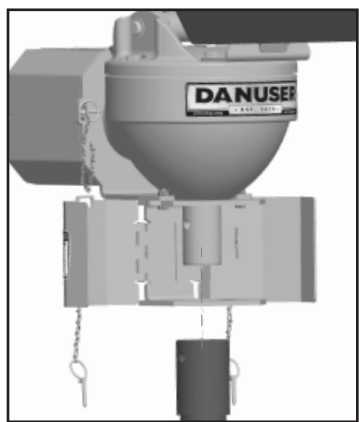

FIG. 6
STEP 9: Open the auger adapter guard (PN 20061) by unlatching two klik pins (PN 7652). Grease the inside of the auger adapter liberally, and attach the auger with the Danuser 1/2"-13 x 3-1/4", Gr. 8, 1/2" of thread **special** retaining bolt (PN 6014) and nut (PN 1056). **NEVER** use a bolt that does not meet these specifications. Once the auger is installed, close the auger adapter guard and latch the two klik pins (see FIG. 6).